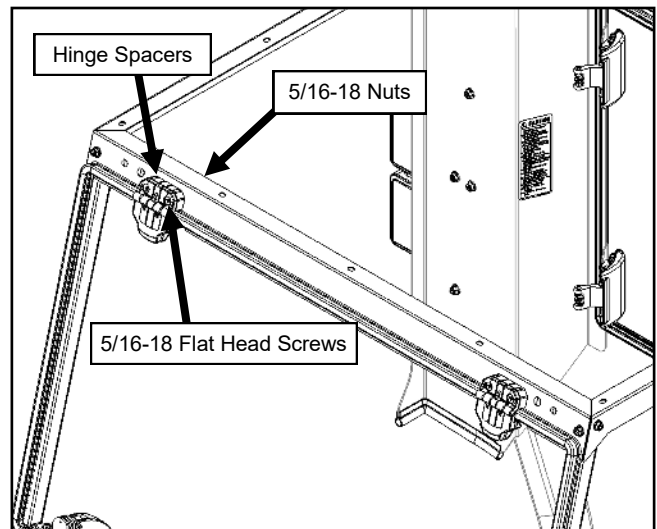

Fig. 9.1 (Attach Windshield)
9.1 With a helper, set the windshield up to the A-pillars and secure it to the roof using the hinge spacers and hardware. See Figure 9.1. Leave hardware loose.